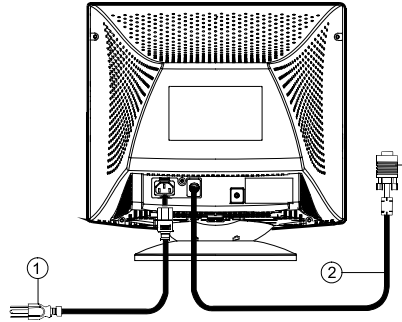

Figure 2 Connecting Cables
**Connecting the Video Cable:** the monitor comes with a built-in video cable. Plug the signal cable's 15-pin connector into the computer's video port and tighten the two screws on the cable connector.(see figure 2)